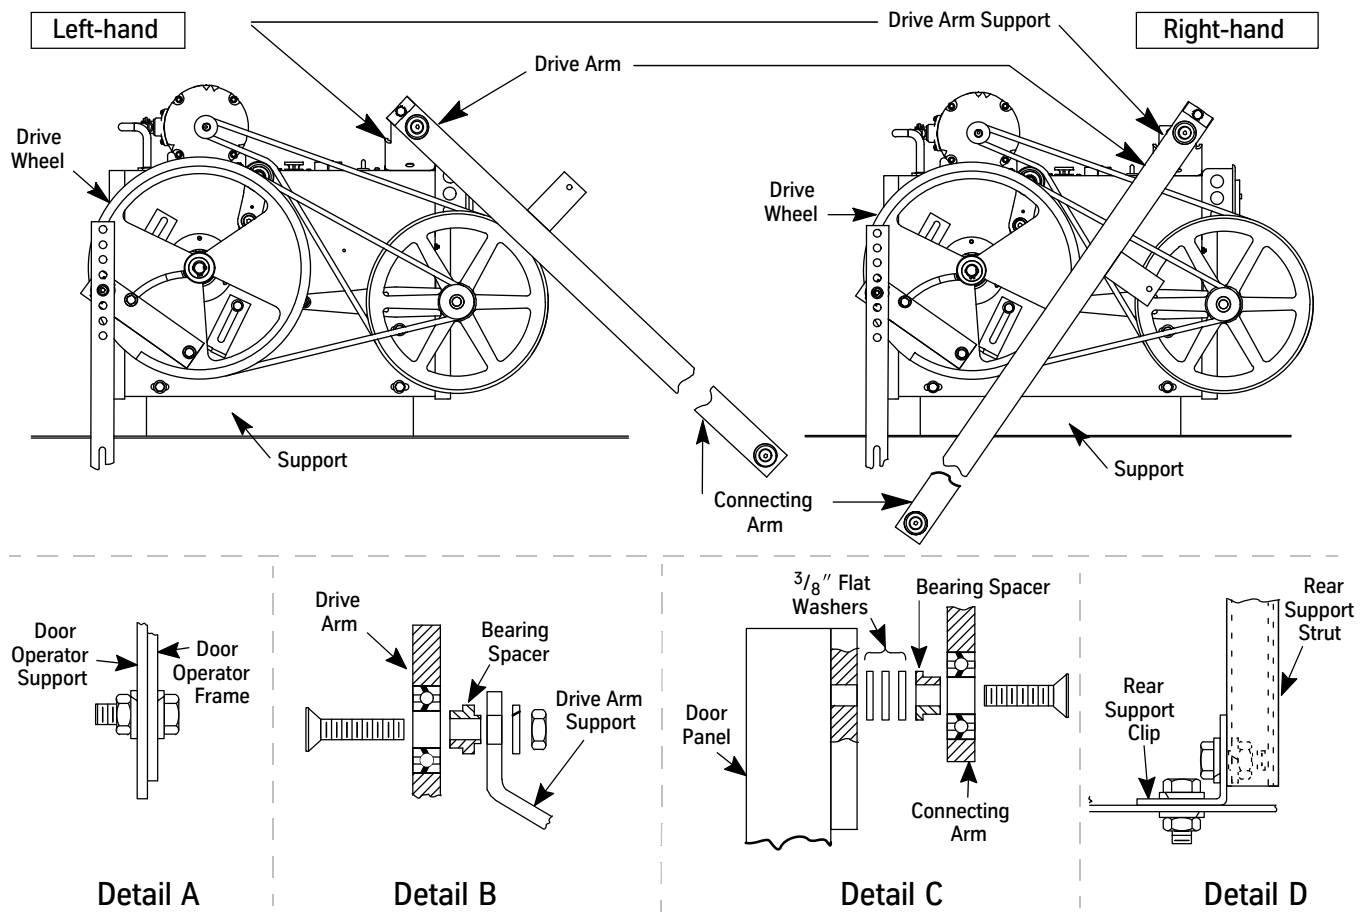

Figure 3 - Mounting the Door Operator
1. Lift the door operator to the car top. Center the operator in the slots of the door operator support. Install the four bolts and tighten. See Figure 3, Detail A.
2. Attach the drive arm to the right hand hole in the drive arm support, looking at the front of the operator, in the drive arm support. See Figure 3, Detail B.
3. Attach the connecting arm to the door panel. See Figure 3, Detail C.
4. Install the rear support. See Figure 3, Detail D.